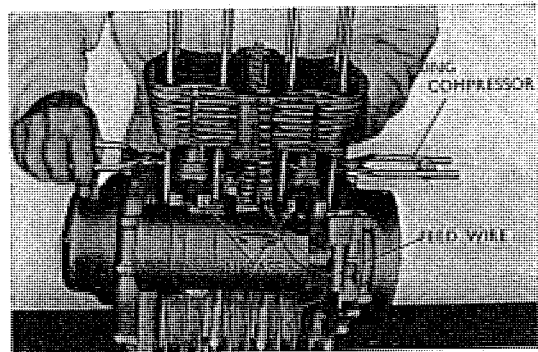

Fig. 3.39 Coupling piston to cylinder
3. When a piston is inserted into a cylinder, use a piston "slider". Applying a base between the piston and case, insert the cylinder. (Refer to Fig. 3.39)